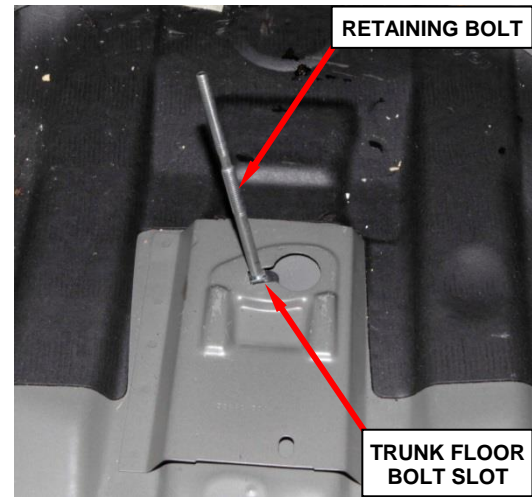

Figure 5 – Retaining Bolt
- b. Remove the retaining bolt from the trunk floor bolt slot (Figure 5).
- d. Install a long thread length retaining bolt into the trunk floor bolt slot (Figure 5).